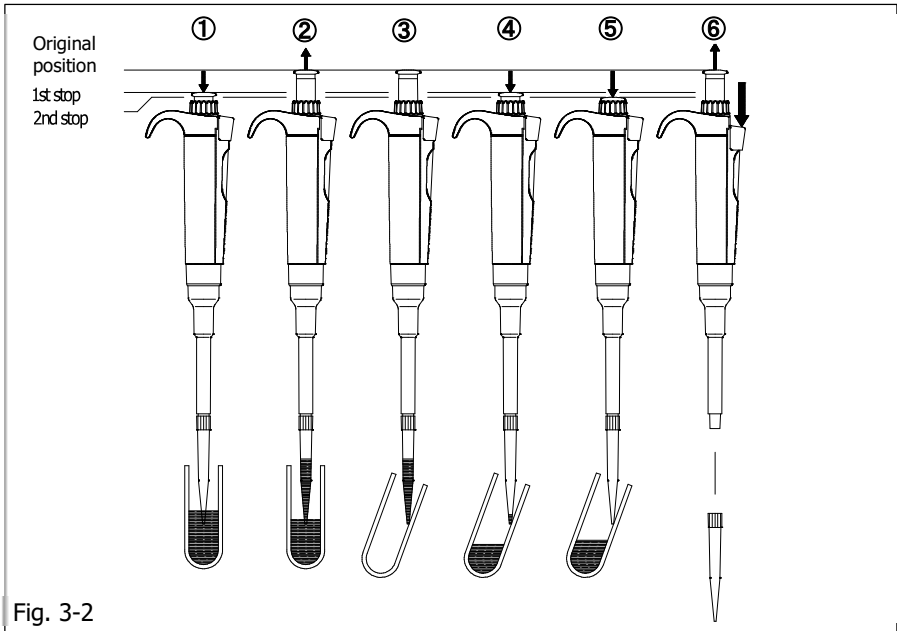

Fig. 3-2
- 3) Hold the pipette vertically and immerse the tip 2mm. to 3mm. below the surface of the liquid (Fig. 3-2) - ①.
- 4) To aspirate the set volume of liquid into the tip, release the push button slowly and let the push button go back to the initial position naturally. It takes 1 second to aspirate the liquid. During this operation, stop to wait for the suction process of the liquid to be totally completed, making sure that the liquid is drawn up into the tip with certainty (Fig. 3-2) - ②.
- 5) Draw the tip of the pipette carefully vertically upward and away from the liquid surface, then touch the tip to the side of the tube to remove excess droplet adhering to the outside of the tip (Fig. 3-2) - ③.
- ✓ Do not aspirate when the push button is at '2nd position' (Fig. 3-2).
Wait for a second, then press the push button down to the '2nd stop' to expel the last droplet of liquid from the tip (Fig. 3-2) - ④ and ⑤.
- 4) Press the ejector button to detach the tip to dispose (Fig. 3-2) – ⑥.